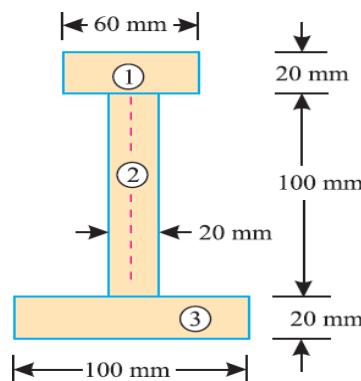

Fig.16
5. An I-section is made up of three rectangles as shown in Fig.16 Find the moment of inertia of the section about the horizontal axis passing through the centre of gravity of the section. [L4][12 M]